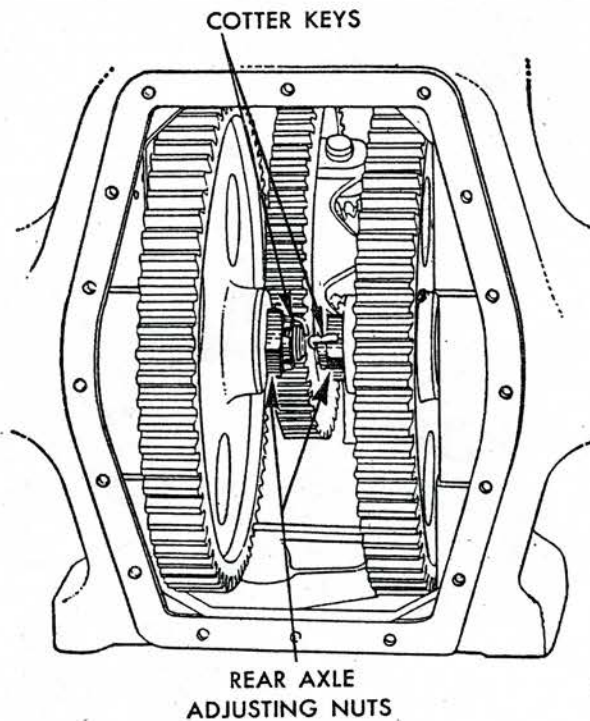

Fig. 41 Adjusting rear axle bearings. Series A, B, G and models 50, 60
**CHECKING FOR BEARING WEAR**—Support tractor with a jack and slide wheel out to end of axle. Place wooden blocks of suitable length and a steel plate under the axle. Raise and lower the jack, checking the amount of movement between axle housing and axle. If movement is excessive, take up play by tightening the slotted nut on inner end of axle (see Fig. 41). Normal end play in axles is .001-.004".
**REAR AXLE BEARINGS**—Rear axles are carried on taper roller bearings which should be checked and adjusted as follows: Raise the wheels to relieve bearings of all load. Remove the platform and axle housing cover. Pull cotter pin from axle shaft, Fig. 41, turn the adjusting nut with a 15 to 20 inch wrench and insert the cotter pin. When properly adjusted, the wheels should turn freely without end play.